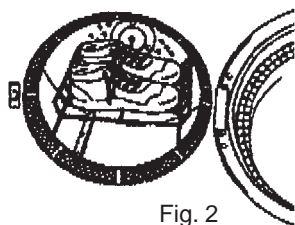

Fig. 2
HOW TO CONNECT AN ALTERNATIVE PLUG. Fig. 2.
- 2, Ensure the front (curved part) of the rack locates correctly between the filter and drum front. (Fig. 2)